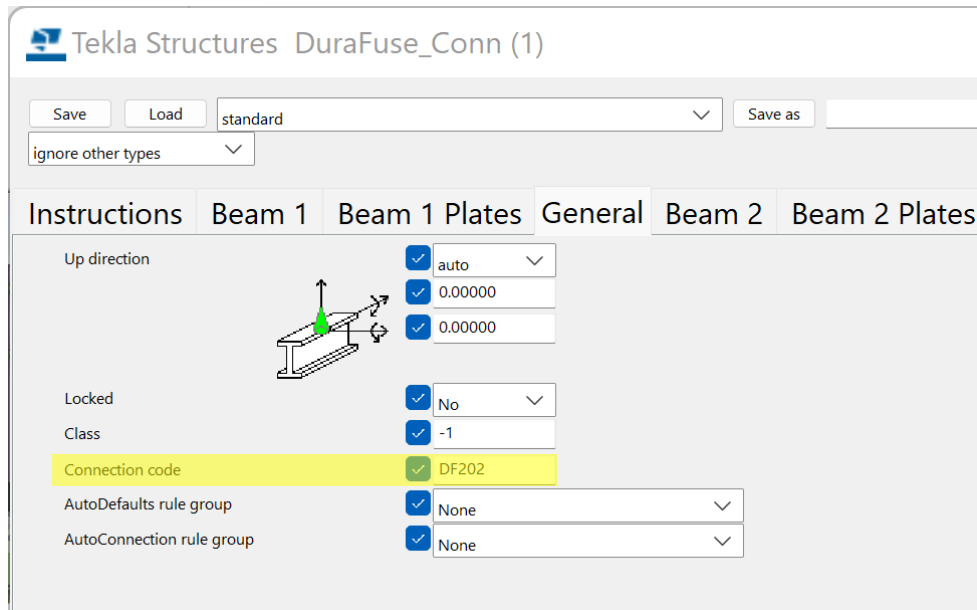

Figure 4-6. Component Dialog General Tab
11. Next to **Connection code**, type the connection ID (Figure 4-6) for the specific location (refer to frame elevations, see Figure 2-1), e.g., DF101. Refer to Section 7.4 for instructions on making the connection ID's visible in the model.